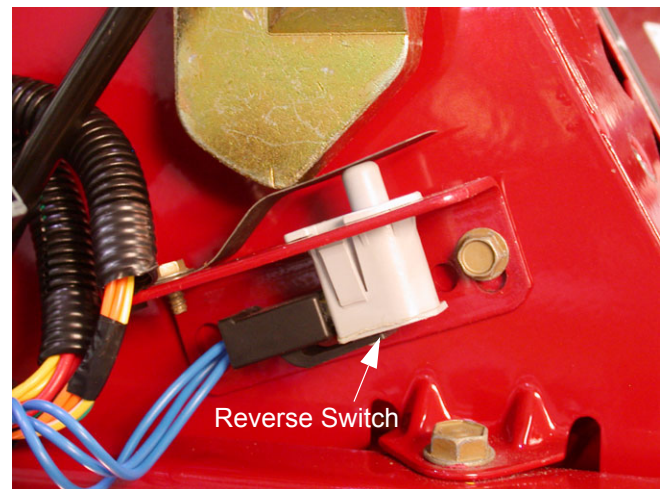

Figure 18.4
18.4. The REVERSE SWITCHES are located just under the lapbars in the console. See Figure 18.4.